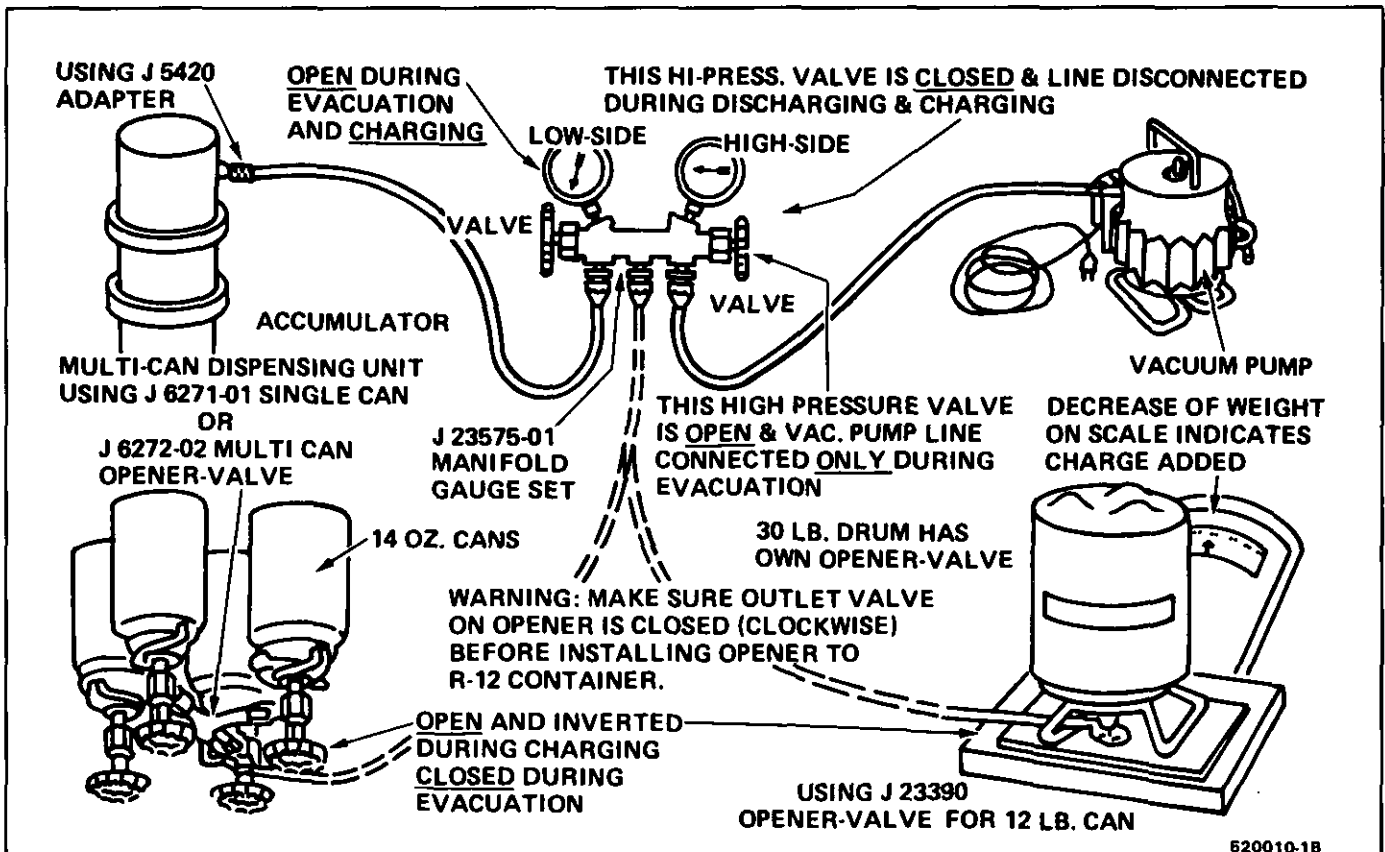

Fig. 18 Charging the System With Disposable Can or Drum
2. To begin evacuation of the A/C System with manifold gage set and vacuum pump as illustrated in Fig. 18, slowly open high- and low-side gage valves and begin vacuum pump operation. Pump the system until the low-side gage reaches 711.2 - 736.6mm (28"-29") vacuum. Note that in all evacuation procedures, the specification of 711.2 - 736.6mm (28"-29") vacuum is used. This specification can only be reached at or near sea level. For each 304.8m (1,000 feet) above sea level, specification should be lowered by one inch vacuum. At 1524m (5,000 feet) elevation, only 584.2 - 609.6mm (23"-24") of vacuum is required. If prescribed vacuum cannot be reached, close